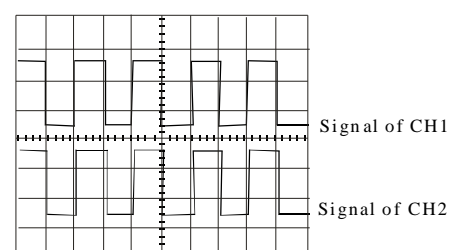

Figure 4-4
Now, apply the calibrator signal to the vertical input terminal of CH 2 with the probe as is the case for CH 1. Set the AC-GND-DC switch to the AC state. Adjust vertical POSITION knobs (11) and (19) so that both channel signals are displayed as shown in Figure 4-4